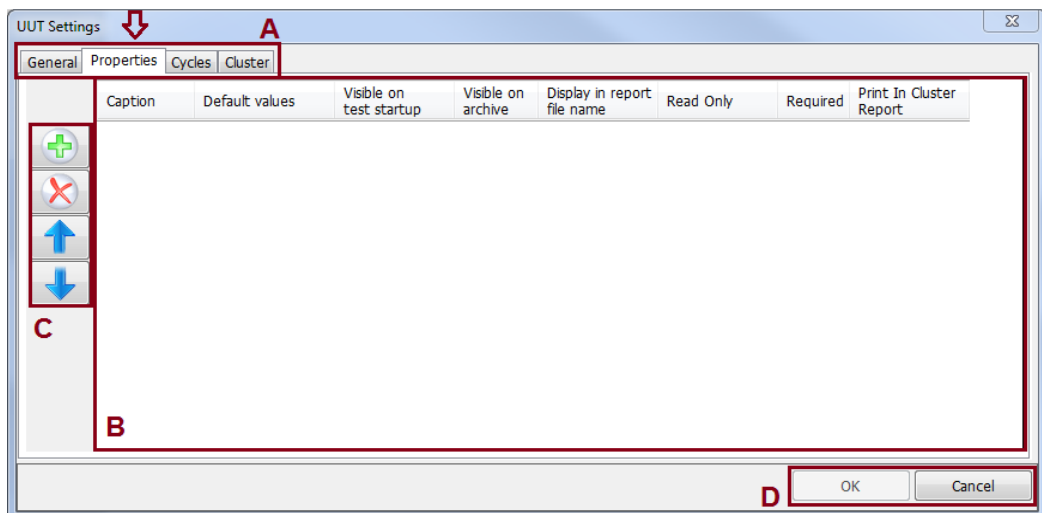

Fig 5-3 UUT Settings window – properties tab
Navigate to the **Main window > UUT Editor** Fig 5-1> select the UUT and click on 'Edit'> the **UUT Settings** window Fig 5-3 will open> select the **properties** tab.
1. Click the  button Fig 5-3 (**C**). This action will add a new empty row in the field Fig 5-3 (**B**).
3. Click **OK** to confirm the addition of the property or **Cancel** to discard any modifications Fig 5-3 \(D\).
1. In the Property area Fig 5-3 \(B\), select the property item you wish to delete.
2. Click the  button Fig 5-3 \(C\).
3. Click **OK** to confirm the deletion of the property or **Cancel** to cancel the operation Fig 5-3 \(D\).
Within the Property area Fig 5-3 \(B\), select the desired property.